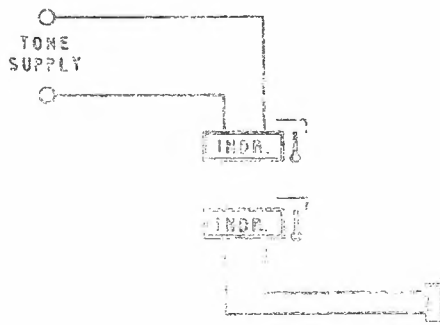

FIG. 2.
STEP 4. Using unshielded indicators, connect the circuit as shown in Fig. 2.